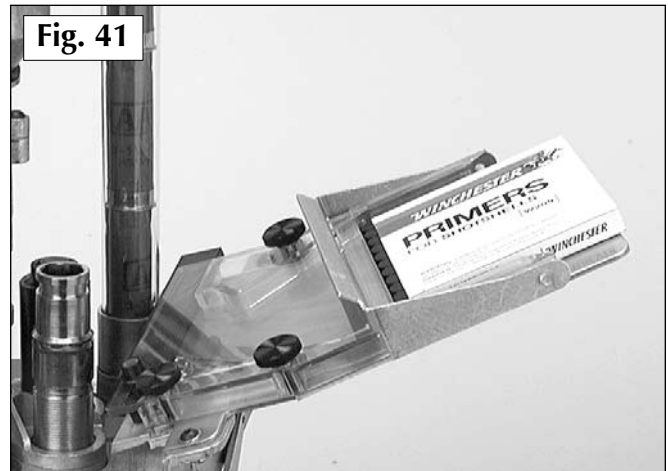

Fig. 41
8. Place the leading edge of the primer tray into the machine's primer feedplate (#16711). **Fig. 41**